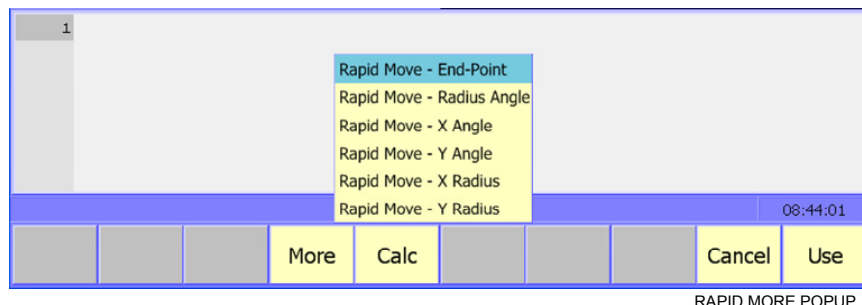
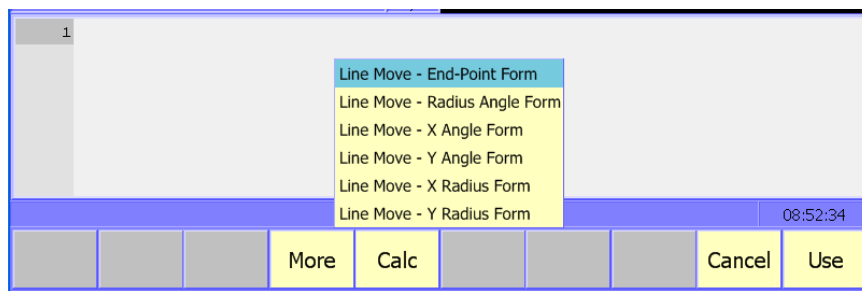

Figure 3-11, Rapid More (F4) Pop-up Menu
Figure 3-12, Line More (F4) Pop-up Menu
2. Press **More (F4)** to display the More pop-up menu. Refer to **Figure 3-11** and **Figure 3-12**.